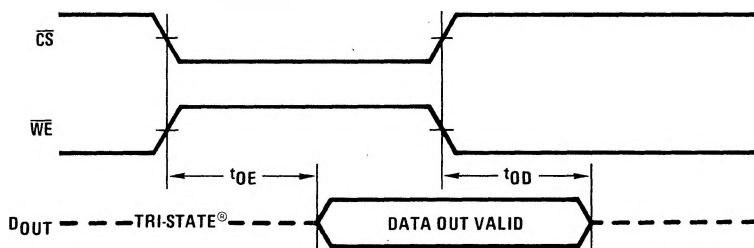

FIGURE 4a. MM54C929/MM74C929
* Greater than minimum \overline{CS} pulse width must be used when reading data from the MM54C929/MM74C929 to ensure that output TRI-STATING does not occur before data becomes valid. Writing has no such limitation, (Figure 4a).